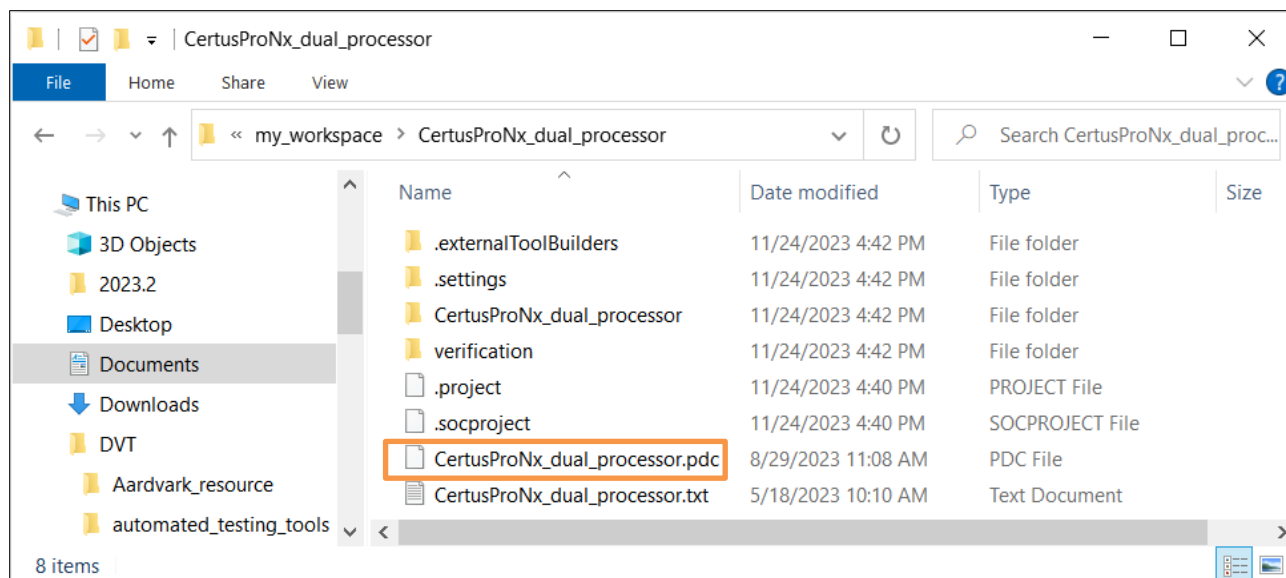

Figure 5.7. Constraint File in Source Project
- a. If the SoC is on board level, copy the Lattice Radiant constraint file from the source project (Figure 5.7).